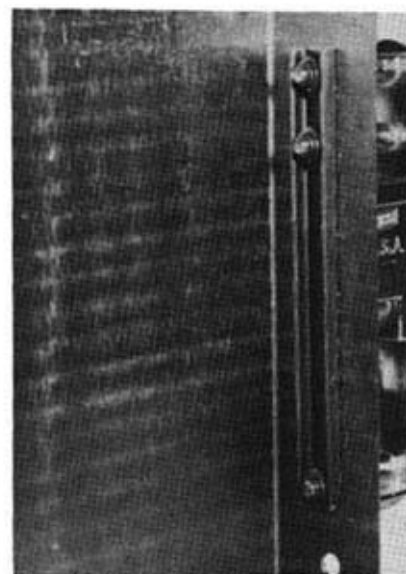

FIG 12
3. Remove the three (3) screws, nuts, nut channel and shim (if applicable - see note) securing defective latch to outer door panel and save for reuse (See Figure 12).